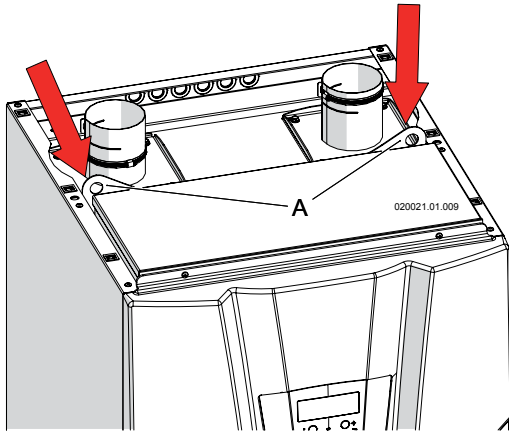

Figure 6-3 Bracket to lift the appliance
- 4.- Access to the uplift brackett "A" (Figure 6-3) on the upper side of the appliance (see Figure 6-3);